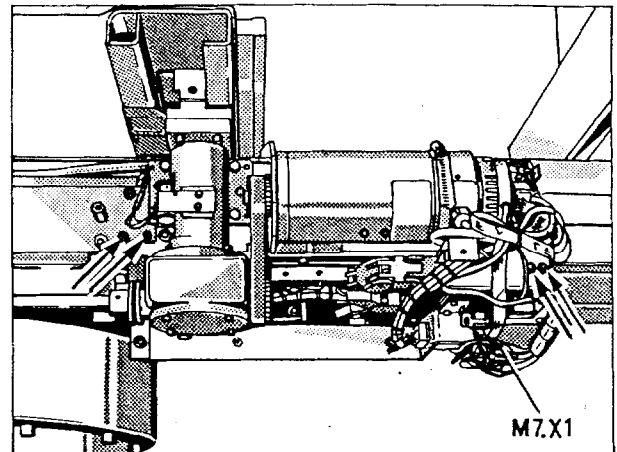

Fig. 6
- Undo the plug connection M7.X1 (Fig.6) and unscrew the energy chain (2 Allen screws, ↘/ Fig.6).
- Unscrew the right head-end toothed rack (4 hexagonal screws, 2 behind the motor and 2 see ↗/ Fig.6).